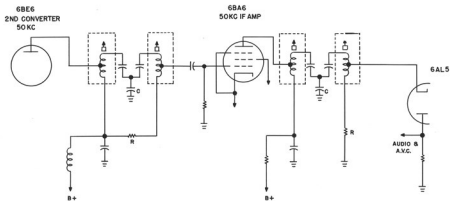

Fig. 7. 50 KC I.F. System
**50 KC I. F. SYSTEM** - Figure 7 is a simplified schematic diagram of the 50 KC I.F. system. It is unique in that the coupling between primary and secondary coils is through a resistive-capacitive network instead of the more common mutual inductive arrangement. All coupling occurs through C and R since each 50KC coil is completely shielded to prevent inductive coupling. By increasing the value of C and R the selectivity can be made broad or conversely, by decreasing C and R, made sharp. This coupling arrangement affords a more accurate means of selectivity control than that readily obtainable by any other method.